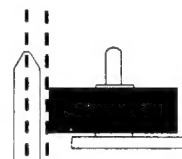

Fig. 4.6 Parallellity of pinch roller
**Parallellity.** Remove pinch roller 1 and look at figures 4.6 and 4.8.1. for the following procedure: Install Tool No. 4 as shown in the figure. The capstan should fit into the gap of the tool. Put a miniature bulb down into the cylindric hole of the tool. The light from the bulb shines through the gap to simplify the adjustments.
See figures 4.6 and 4.7, and adjust with the screws P, so that both rollers are in parallel with the capstans.
A white piece of paper can be inserted behind the pinch rollers and the capstans to make it easier to observe the gap between them. See fig. 4.6.